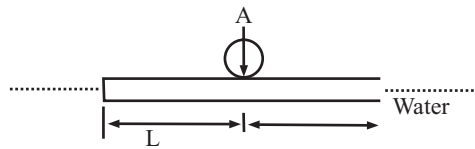

Fig 5
Q.5. A log of wood is floating in water with a weight W placed at its middle as shown in Fig.5 Neglecting the weight of log, draw shear force (SF) and bending moment (BM) diagrams of the log.